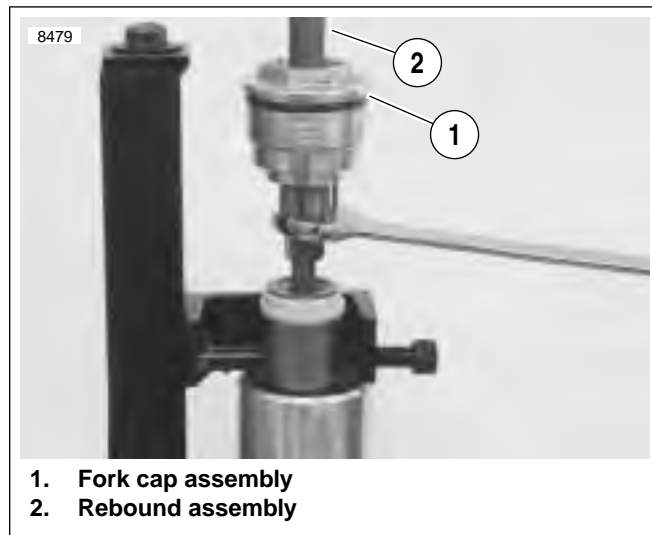

Figure 2-72. Rebound Assembly and Fork Cap Assembly
6. See Figure 2-72. Tighten the damper locknut (10) to 22-30 ft-lbs (30-40 Nm).
21. See Figure 2-72. Hold damper rod assembly (3) and install fork cap (1) on damper rod assembly (3) tightening to 22-30 ft-lbs (30-40 Nm).